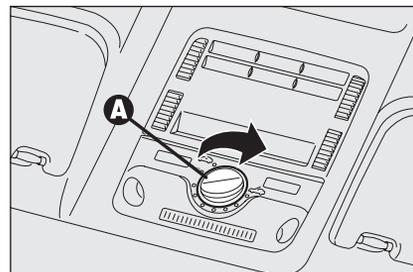

fig. 87
Turn selector **A-fig. 87**, as shown by the arrow. The sunroof will stop in position as soon as the selector is released.
**IMPORTANT** Top comfort position with sunroof open is obtained by turning selector **A-fig. 87** to position.
Turn selector **A-fig. 87** counter-clockwise.
Sunroof sliding by pressing the electronic key buttons  or  can be stopped by operating selector **A-fig. 87** (by changing its position or pressing it).